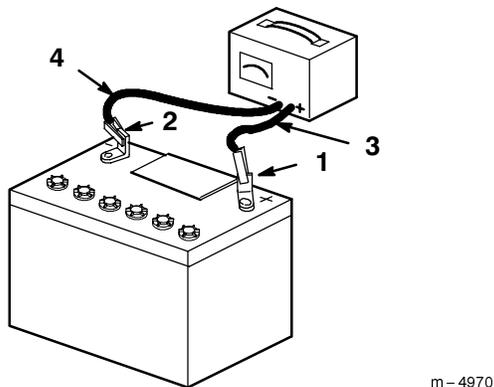

Figure 39
4. When the battery is fully charged, unplug the charger from the electrical outlet, then disconnect the charger leads from the battery posts (Fig. 39).